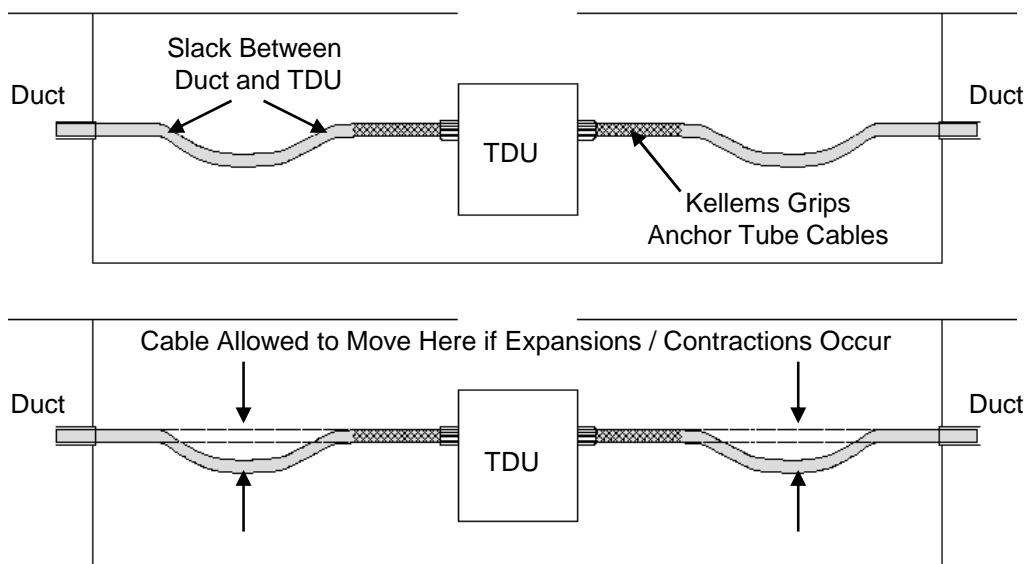

Figure 4
10.4 In maintenance holes, provide as much slack as possible between duct entrances and TDU attachment points to accommodate cable movements. Do not, however, create any tight bends that could impact fiber bundle blowing performance. **See Fig. 4.**